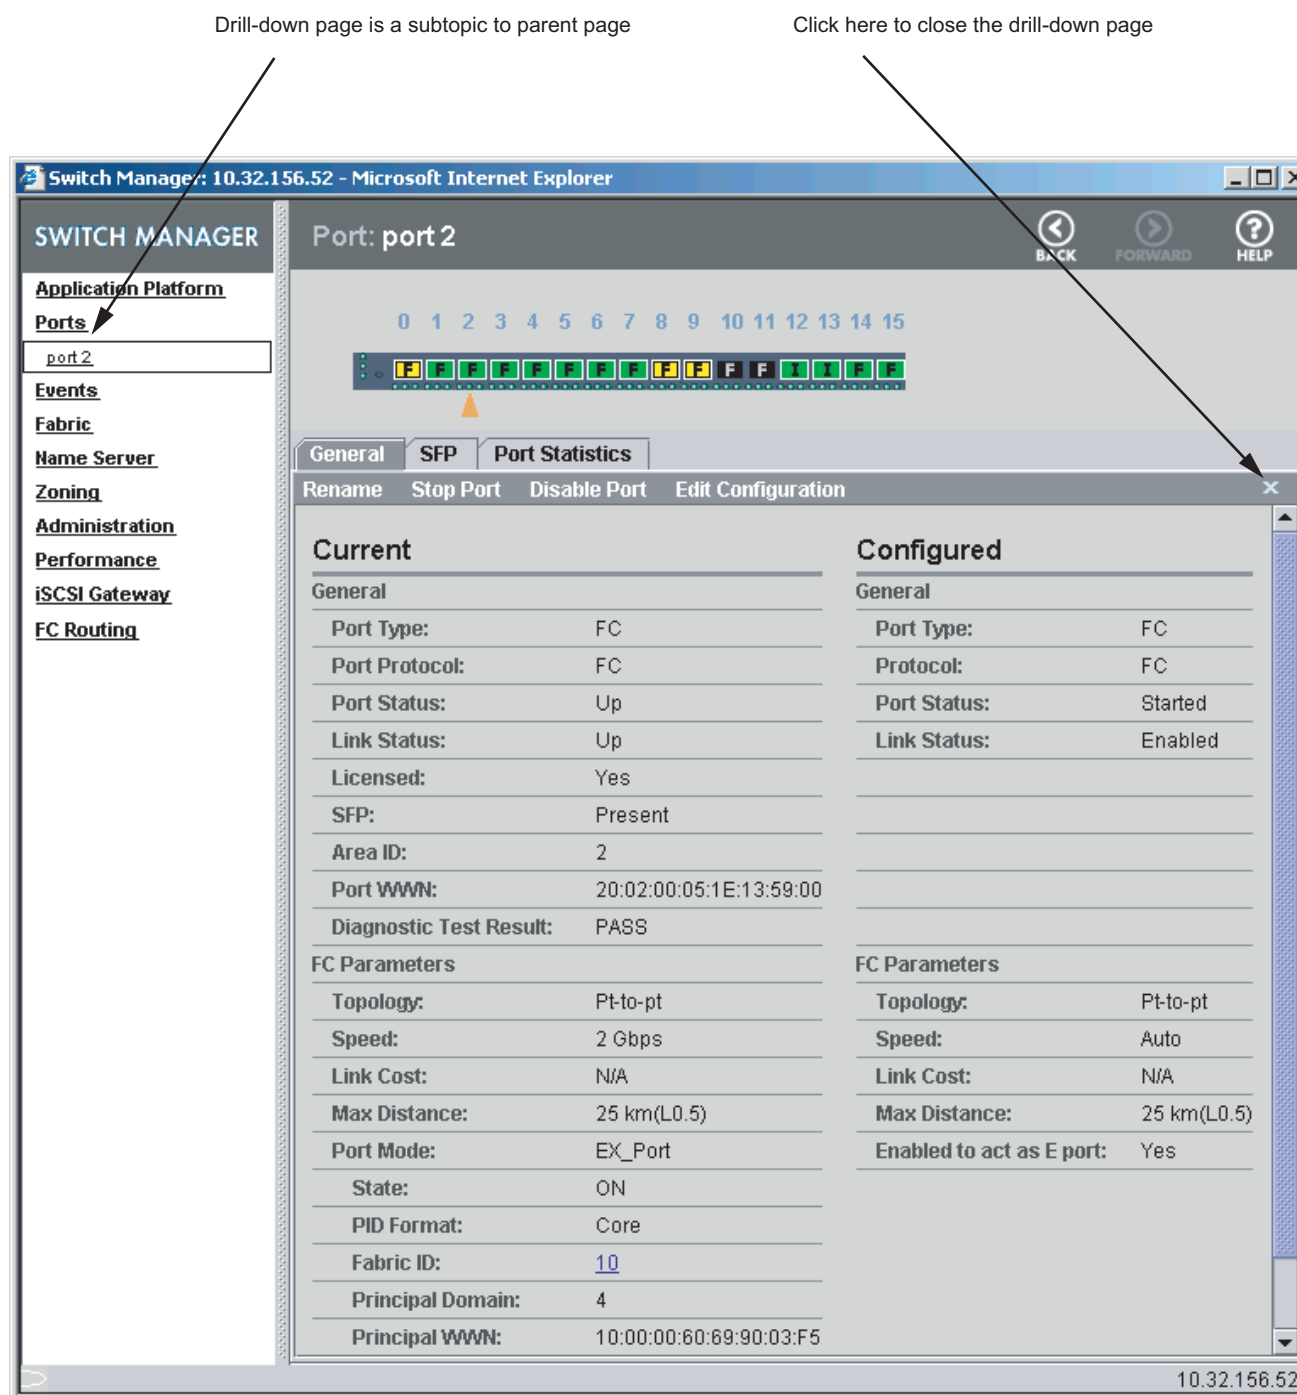

Figure 4 Port drill-down page
- *Drill-down pages* provide more detail about an object. You can open a drill-down page by clicking a blue, underlined hyperlink. A port drill-down page can also be opened by clicking a port icon. When you open a drill-down page, the page topic is added as a child page under the appropriate parent (top-level) page option in the navigation bar (see Figure 4).